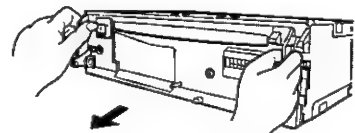

Fig. 3
- Remove the unit by pulling it with both hands. (⇒ Fig. 3)